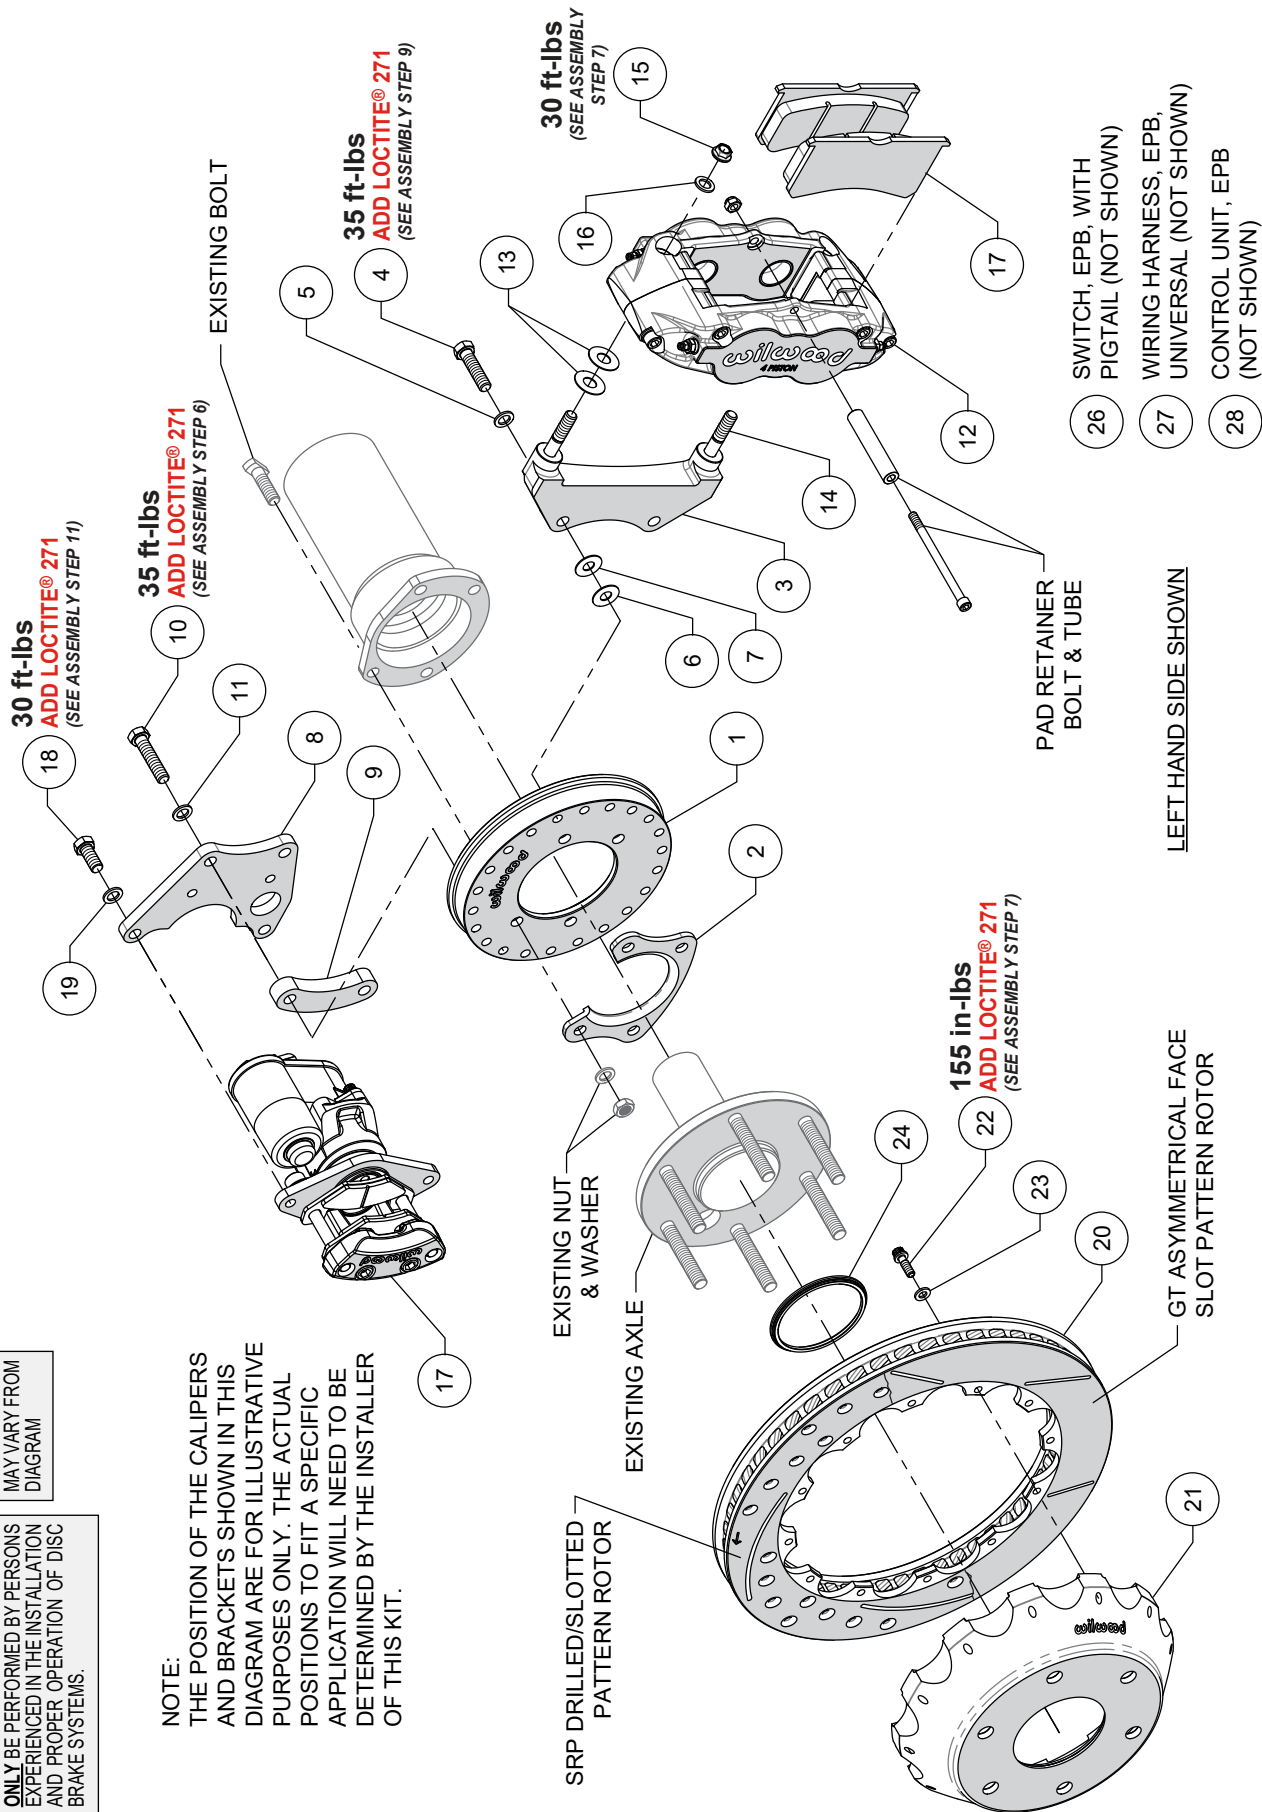

Figure 1. Typical Installation Configuration
NOTE: Numbers in parenthesis refer to the parts list and Figure 1 on the preceding pages.
STEP 1 Orient the backing plate (1), as shown in Figure 1 and Photo 1 and slide it onto the axle housing flange. Ensure that the backing plate fits flush against the axle housing flange. Reinstall the axle into the axle housing.
STEP 2 Install the bearing retainer (2) with the opening pointing upward and the lip facing inward (toward the bearing), as shown in Figures 1 and 3. Secure retainer and backing plate to the axle housing flange using the existing bolts and nuts, Figure 1 and Photo 2. Apply red *Loctite*® 271 to the bolt threads and torque to OEM specifications.